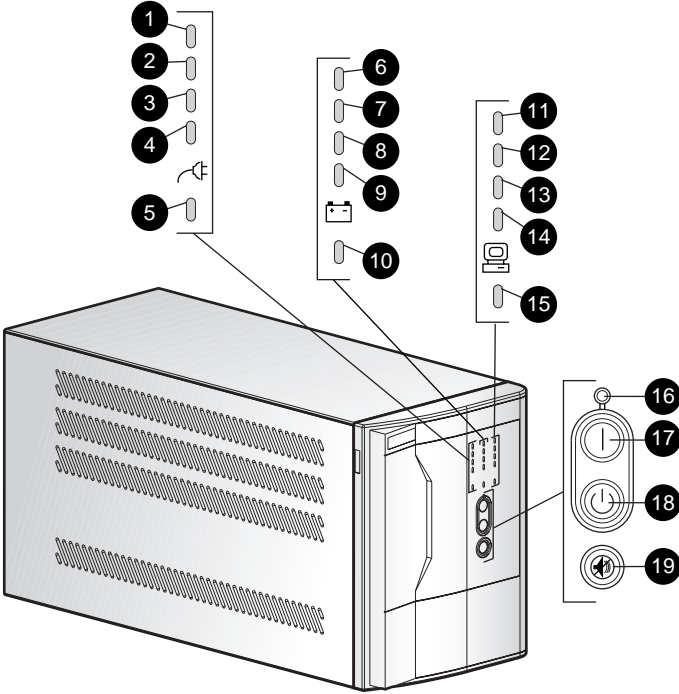

Figure 4-2. The front panel LED display and controls
5. To scroll through the configuration parameters, press the ON button (Ⓜ). The UPS acknowledges confirmation with a short beep. Monitor the LED display (see Figure 4-2; LED 1 blinks to indicate that parameter 1 is selected, LED 2 blinks when parameter 2 is selected, and so on).